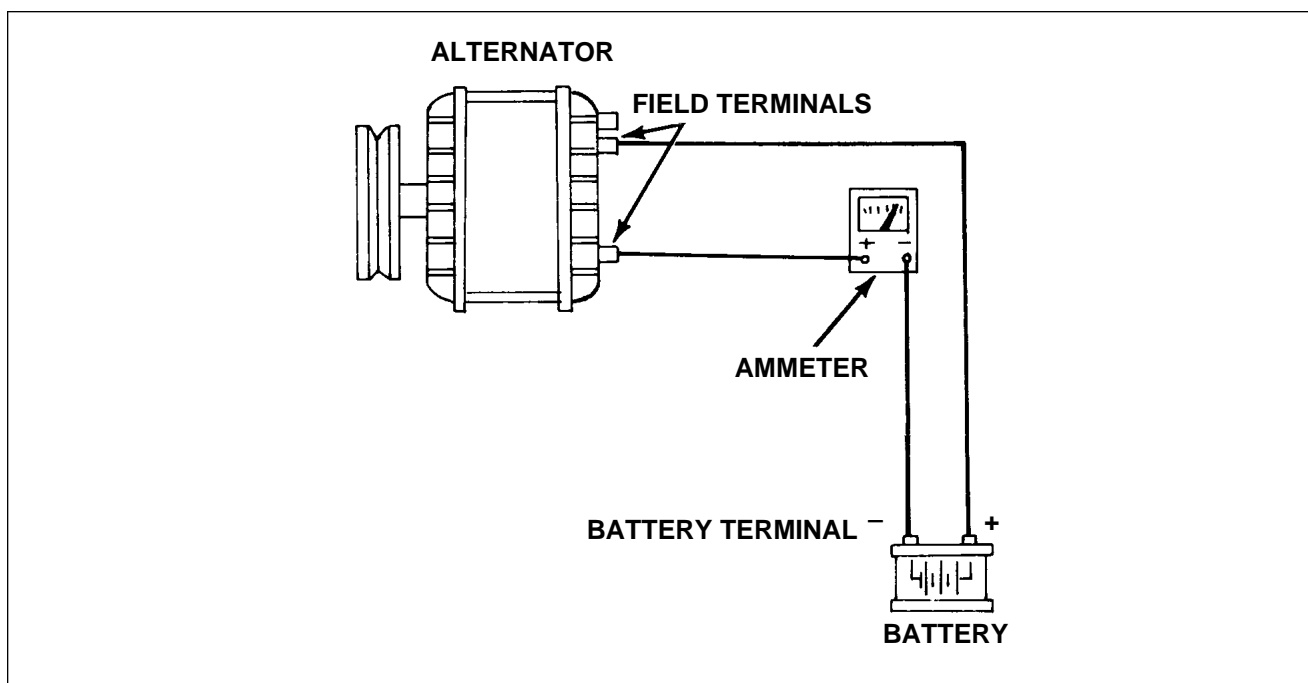

Figure 24-17. Checking Chrysler Alternator Field Current Draw
4. Chrysler Alternator Rotor Field Coil Current Draw (Refer to figure 24-17.)